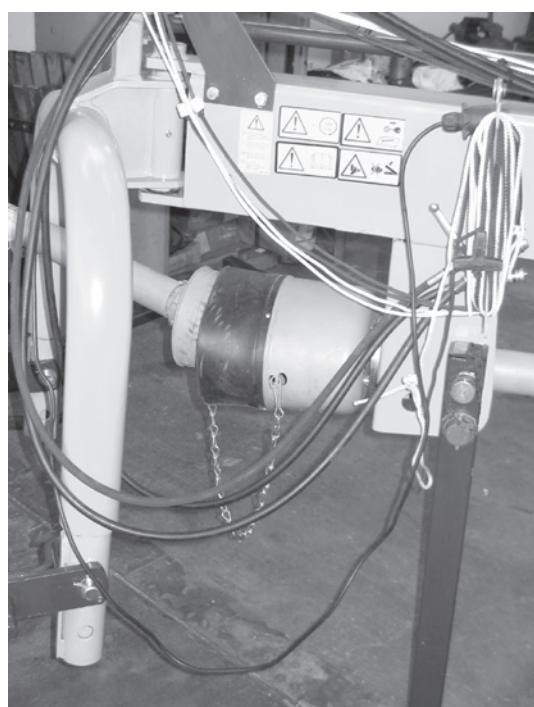

Fig. 3-20
- Swivel support foot (a) downwards until the locking device engages (fig. 3-20).
- Remove the cardan shaft (b) from the tractor and place in the storage bar (fig. 3-20).